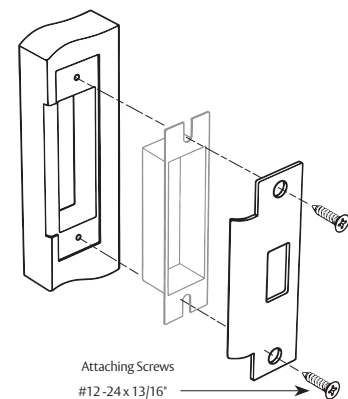

Figure 3
4. Install the strike (Figure 3).